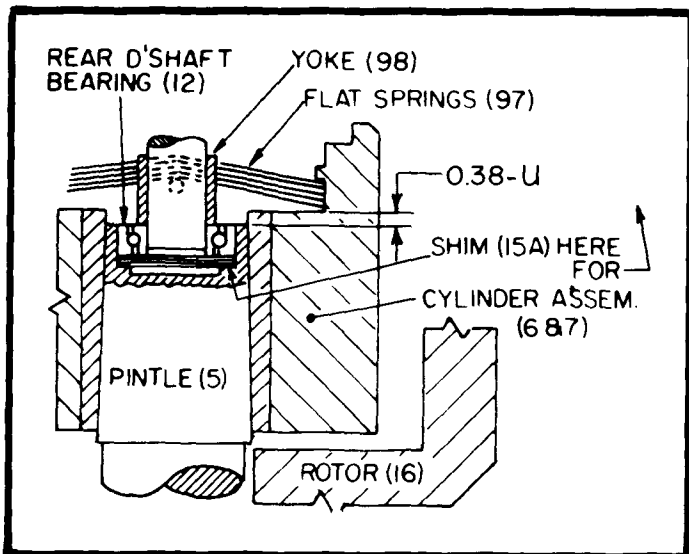

Figure 7. Spring Deflection Shimming. (508644)
See Figure 7. Insert pistons (8) into cylinder, then lower cylinder assembly onto pintle, stopping about two inches from actually resting on pintle. Install spring yoke (98) onto rear shaft bearing (12), balls (96) into yoke and flat springs (97) onto balls (seven on each side) in each side of yoke. Lower cylinder until it rests on springs. To determine spring deflection, measure from bushing face to end of pintle. Install shim(s) (15A) under bearing (12) to obtain a measurement of .380" minus the "u" dimension, which was recorded in step No. 3. "Thrust" face of rear driveshaft bearing (12) must face DOWN. Install coupling ring (21) and rollers (20). Piston ring (19A) should have a free fit in cylinder bore. Install ring onto coupling flange (19) and coupling flange into cylinder.